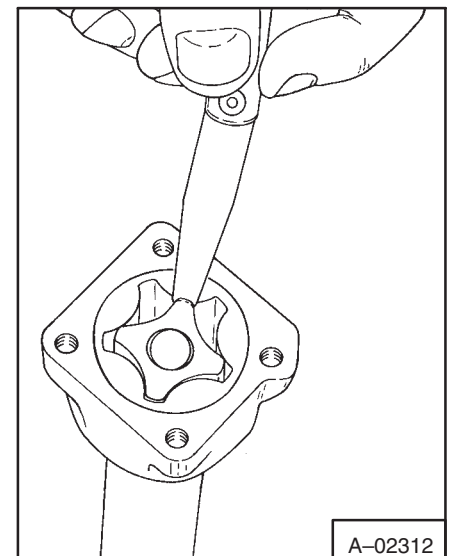

Fig. 7-64 Checking Rotor Clearance
- (a) Check the clearance between the inner and outer rotor (Fig. 7-64).